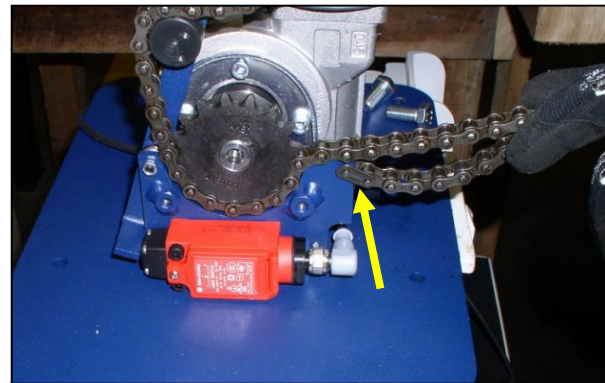

Figure 7.52
13. Make a note of how the chain is installed around the sprocket and the chain tension switch. Count the number of links in the loop of the chain before you remove it (Figure 7.52).